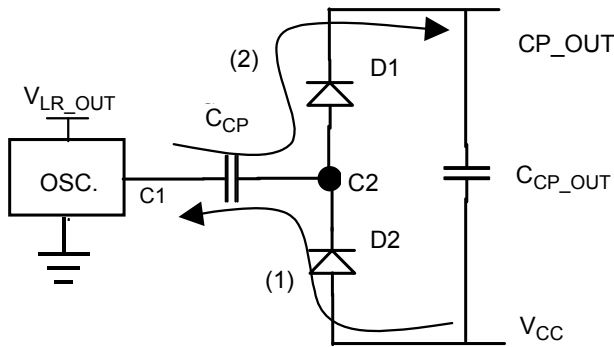

Figure 8. Charge Pump Basic Circuit
The charge pump generates the high-side driver supply voltage (CP_OUT), buffered at C_{CP_OUT} . Figure 8 shows the charge pump basic circuit without load.
When the oscillator is in low state (1) in [Figure 8], C_{CP} is charged through D2 until its voltage reaches $V_{CC} - V_{D2}$. When the oscillator is in high state (2), C_{CP} is discharged through D1 in C_{CP_OUT} , and final voltage of the charge pump, V_{CP_OUT} , is $V_{CC} + V_{LR_OUT} - 2V_D$. The frequency of the 33883 oscillator is about 330 kHz.